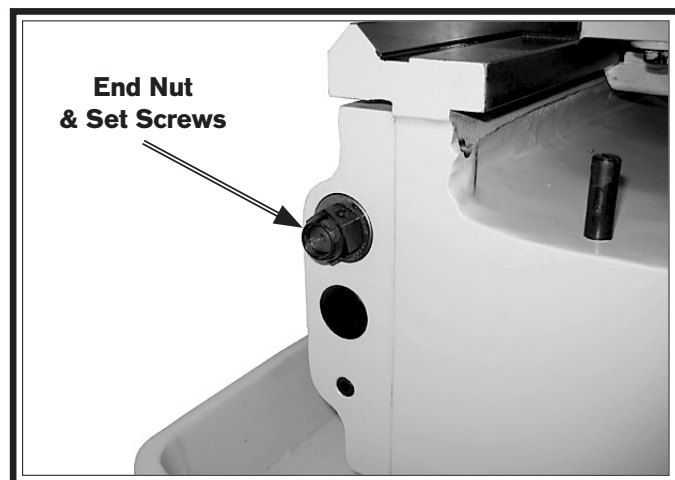

Figure 116. Leadscrew end nut.
2. Loosen the two set screws in the leadscrew end nut (see **Figure 116**).